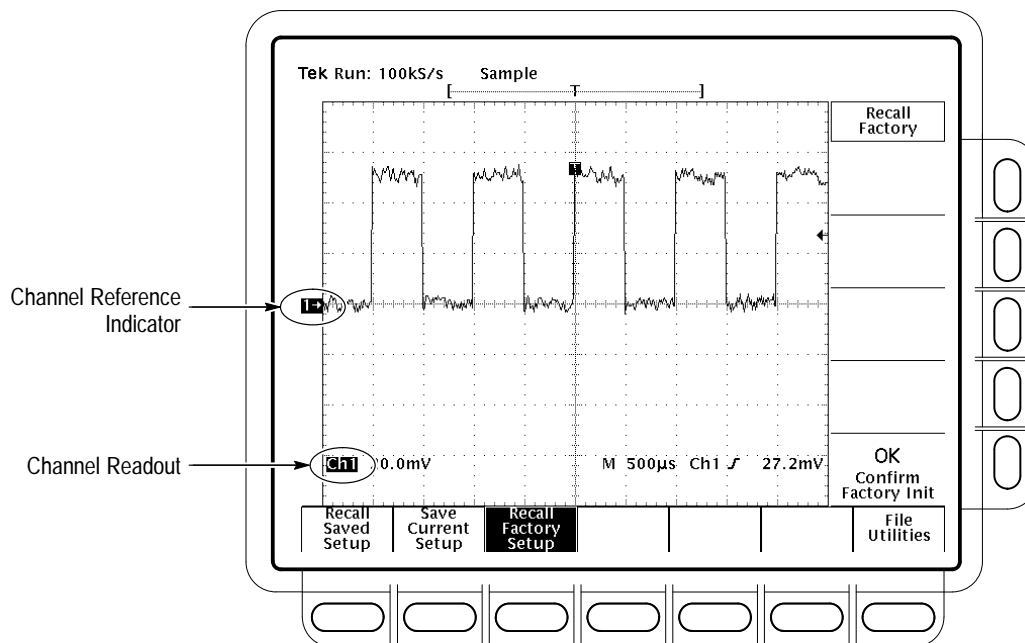

Figure 3–3: The Channel Readout
1. Press the Save/Recall **SETUP** button to display the Setup menu (see Figure 3–3). Press the button directly below the **Recall Factory Setup** menu item.
To determine which channel is currently selected, check the *channel readout*. It shows the selected channel in inverse video in the lower left corner of the display. The *channel reference indicator* for the selected channel also appears in reverse video along the left side of the display. (See Figure 3–3.)